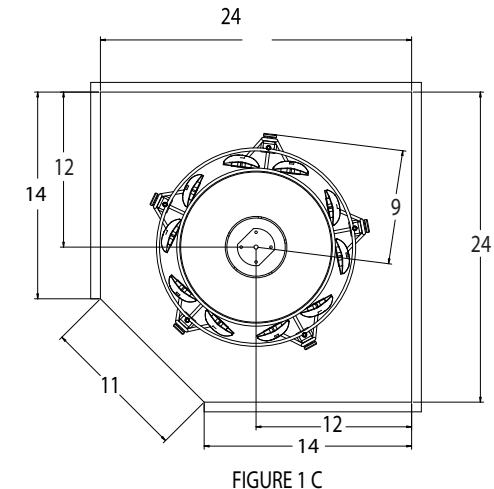

FIGURE 1 C
- The dimensions shown in figure 1 a, b, c are minimum.